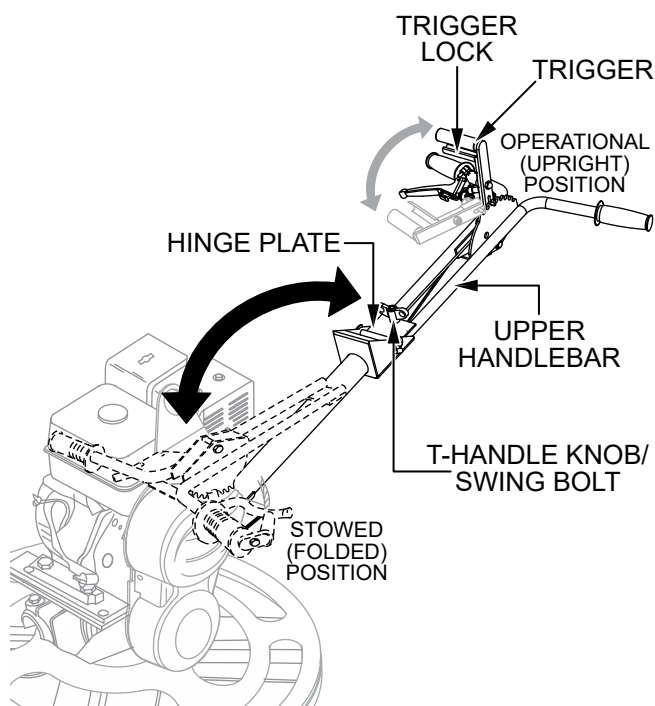

Figure 6. Quick Pitch™ Handle Assembly
1. Make sure that the Quick Pitch™ trigger (Figure 6) has been attached to the upper handlebar and the pitch control cable has slack.
2. Rotate the T-handle knob (Figure 6) on the top side of the upper handlebar counterclockwise to remove the knob from the swing bolt.
3. Move the Quick Pitch™ handle toward the operator's position and unfold the upper handlebar away from the engine into the upright position (Figure 6).
4. Reinsert the swing bolt through the slot in the hinge plate (Figure 6). Turn the T-handle knob clockwise to secure the upper handlebar in place.